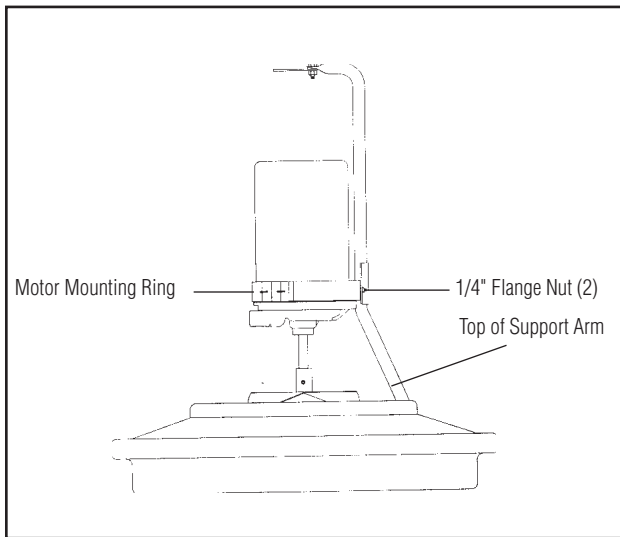

Figure 4
D. Step 4 --see figure 4.
- a. Attach one of the support arms to the mounting ring using: (2) 1/4" flange nuts.